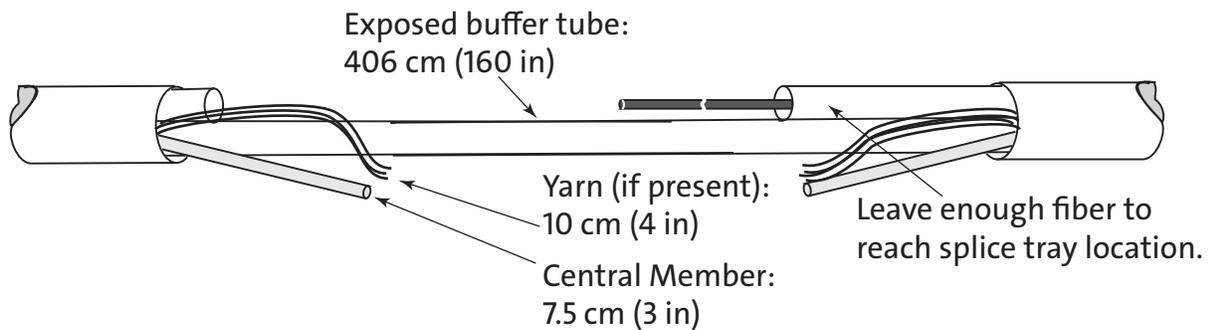

Figure 2
Step 1: Remove 4 meters (160 in) of the cable sheath (and armor, if included) as indicated in Figure 2.